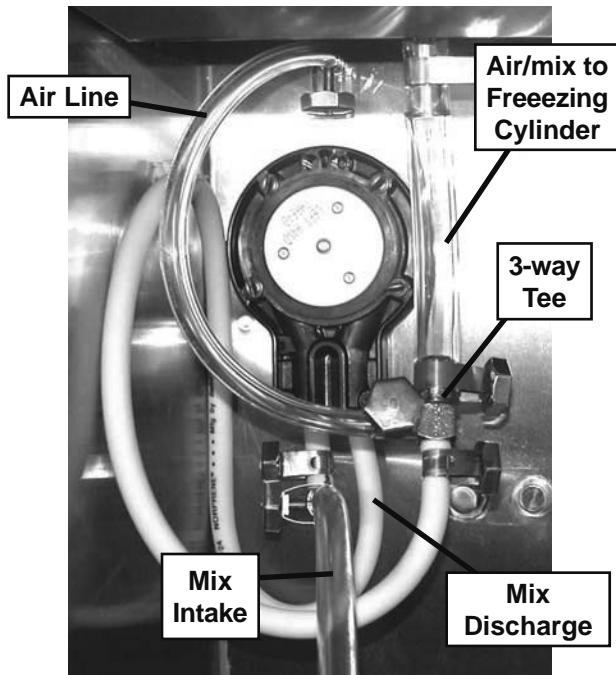

Figure 3-7 Mix Pump Hose Routing
- A. **Mix Operation:** The peristaltic mix pump contains one continuous mix pump hose. When looking at the face of the peristaltic mix pump, the left side of the hose is the mix intake or pickup. The right side of the hose is the mix discharge. Mix is drawn up the pickup side of the hose and transferred through the discharge side to the machine (Fig. 3-7).